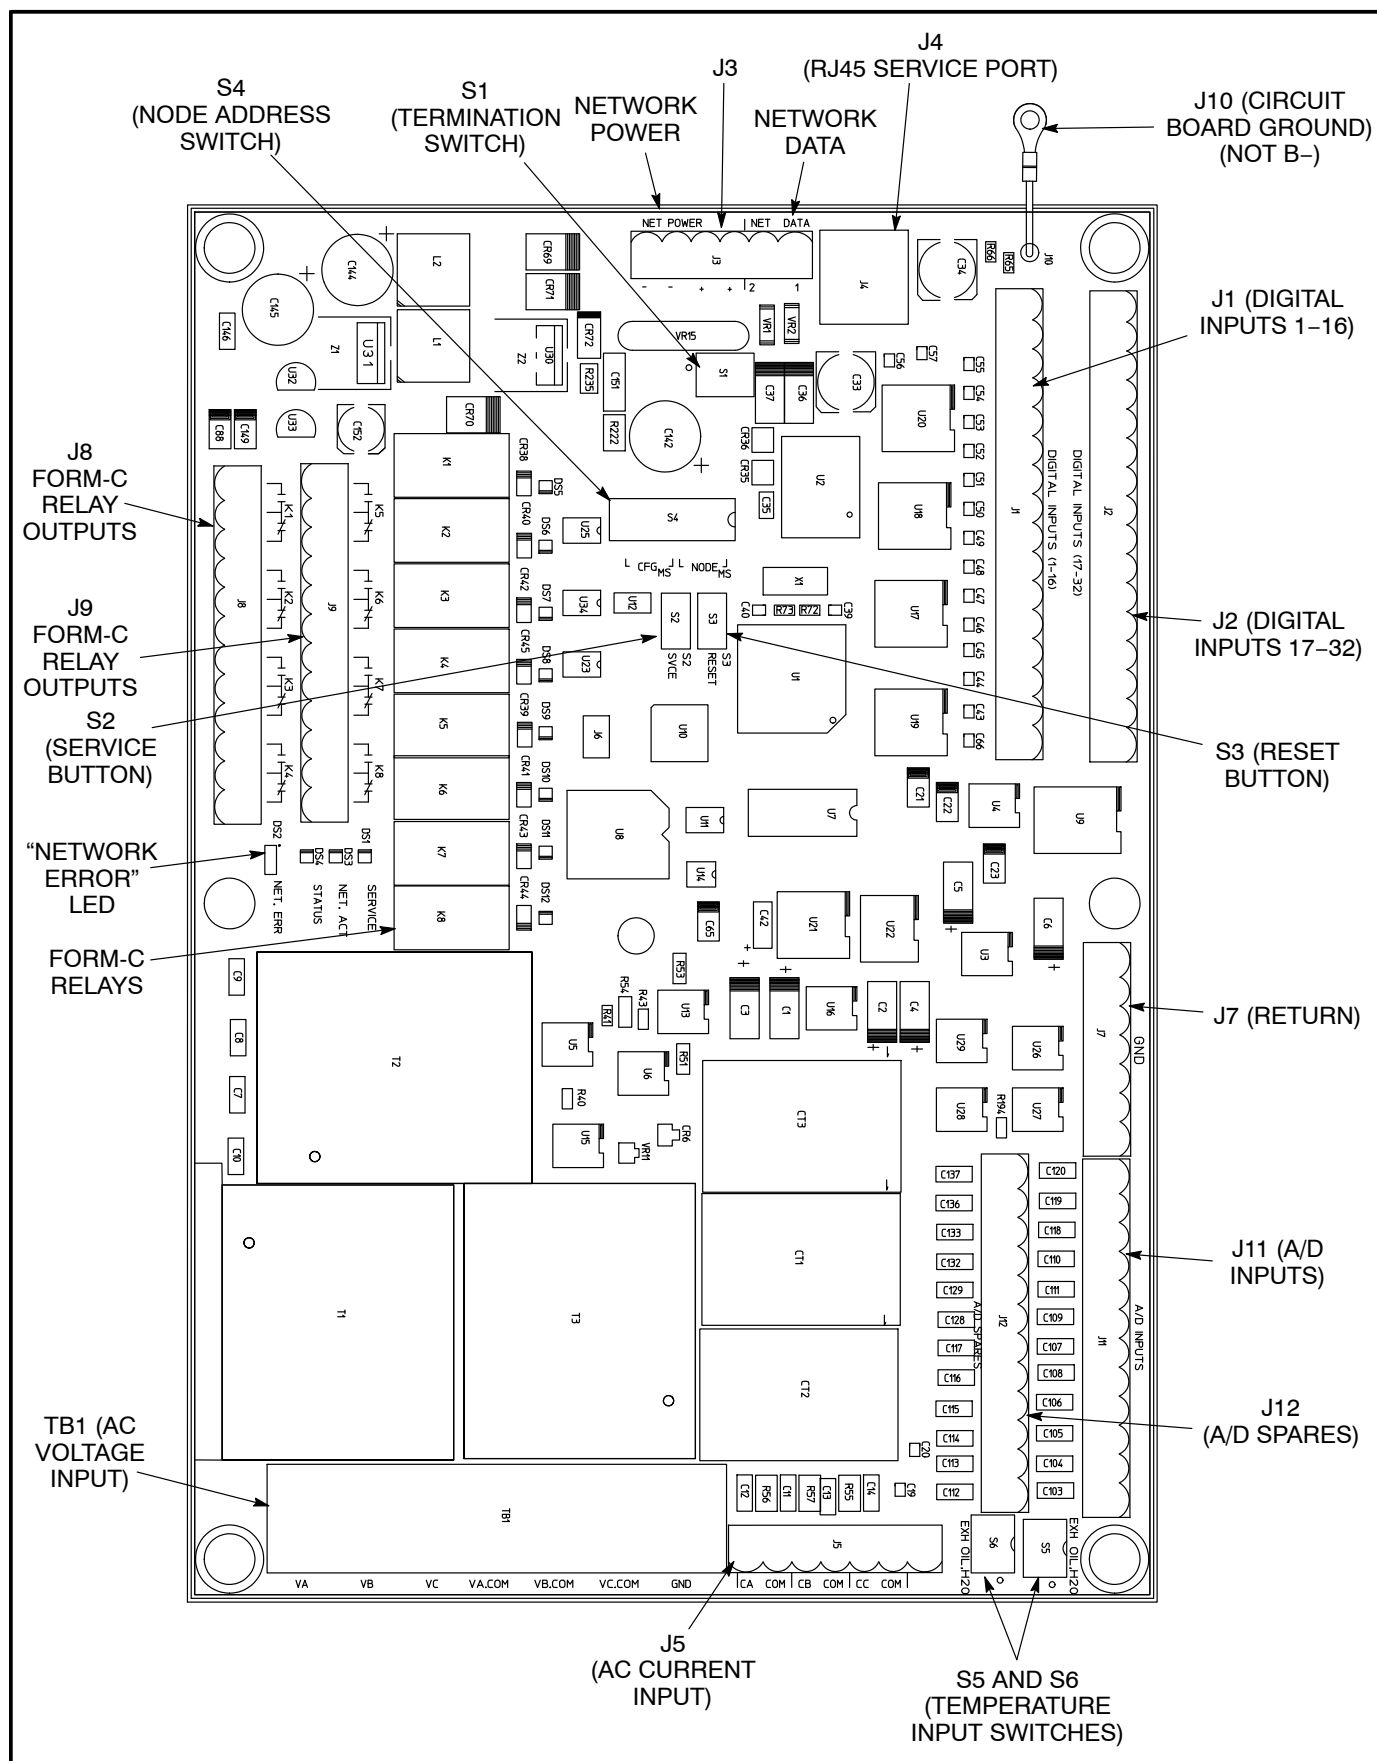

FIGURE 17-1. ATS CONTROL COMMUNICATION MODULE
The CCM-T has eight 250 volt, 3 amp Form-C relay outputs (see Figure 17-1). The relays are controlled from the network and are used to transmit Remote Test, Transfer Inhibit, Re-Transfer Inhibit, Load Shed control signals, and four customer-defined events.
7. Set the Temperature Input switches (see Figure 17-1) to either "EXH" (80–390 ohm exhaust temperature RTD) or "OIL.H2O" (500–2200 ohm oil/water temperature RTD). Descriptions of the CCM-T switches are included in Table 17-4.
8. If the CCM-T is terminated, the termination switch S1 must be set (see Figure 17-1). This is accomplished by moving it to the ON or TERM position.